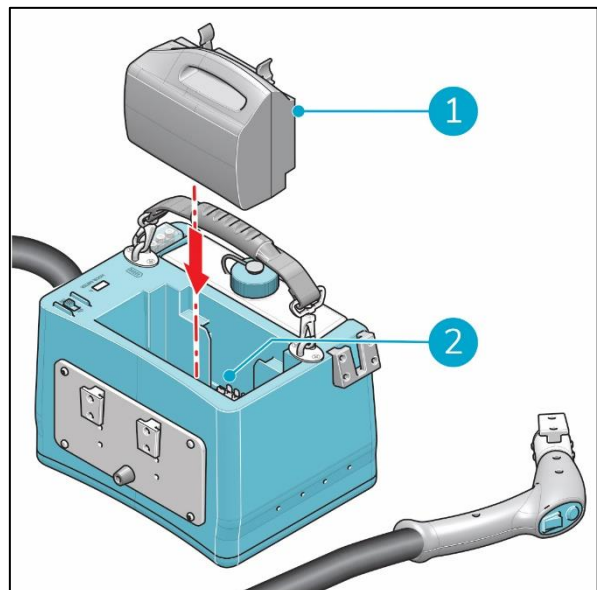

Figure 9
4. Insert the battery (Figure 9, pos 1) in the battery slot (Figure 9, pos 2), until you hear a "click". The battery is now fixated.